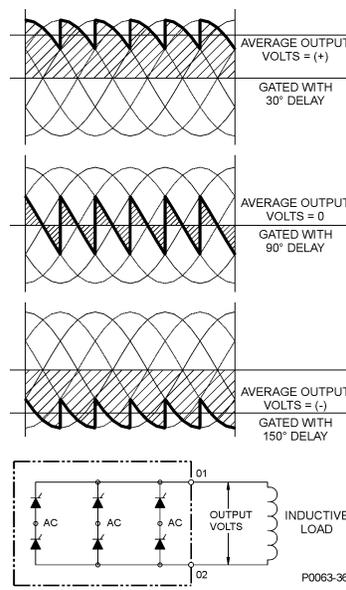

Figure 7-1. Typical Power Bridge Output Waveforms
3. With a suitable load connected, connect an oscilloscope to view the SCR firing pulses at the power amplifier modules. Close the 41A device and observe that the power amplifier output voltage is near the level of no-load field voltage if test source is less than normal ac input voltage level, the field voltage output will be reduced proportionally to the ratio of test voltage to nominal voltage. The observed exciter output waveform should be similar to the waveforms shown in Figure 7-1. Note that six SCR firings per cycle are indicated by the six “bumps” per cycle in the output waveform.